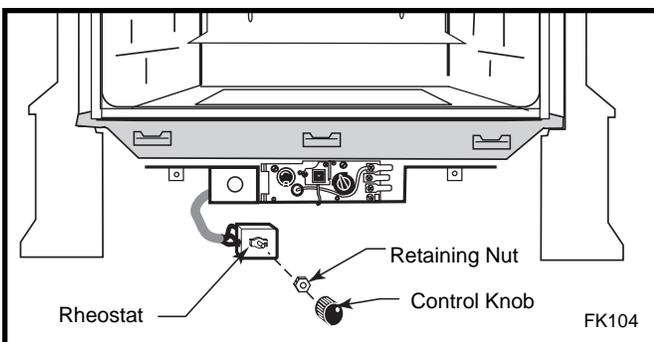

Fig. 13 Attach rheostat to bracket.
5. Install the rheostat onto the bracket to the left of the valve. (Fig. 13)